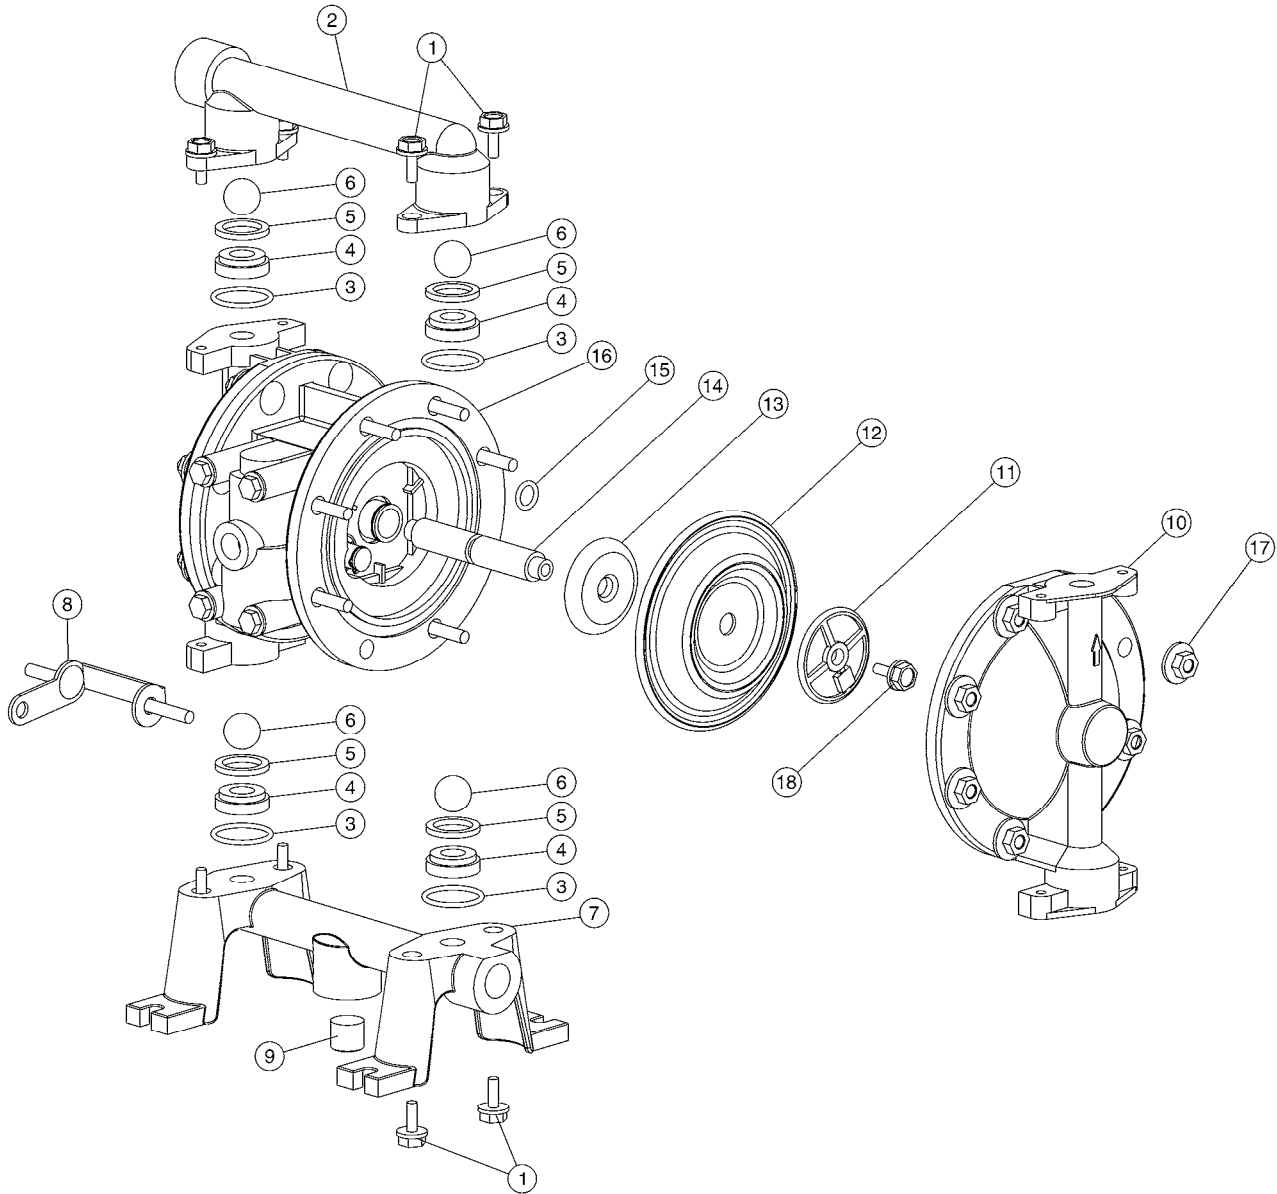

Figure 1-3. Exploded view of the fluid section of the Pneumatic Diaphragm Pump.
Note: *The components inside the Pneumatic Diaphragm Pump are shown in Figures 1-3 and 1-4.*
- 1. Refer to Figures 1-3 and 1-4 to locate and identify the various components of the Pneumatic Diaphragm Pump.